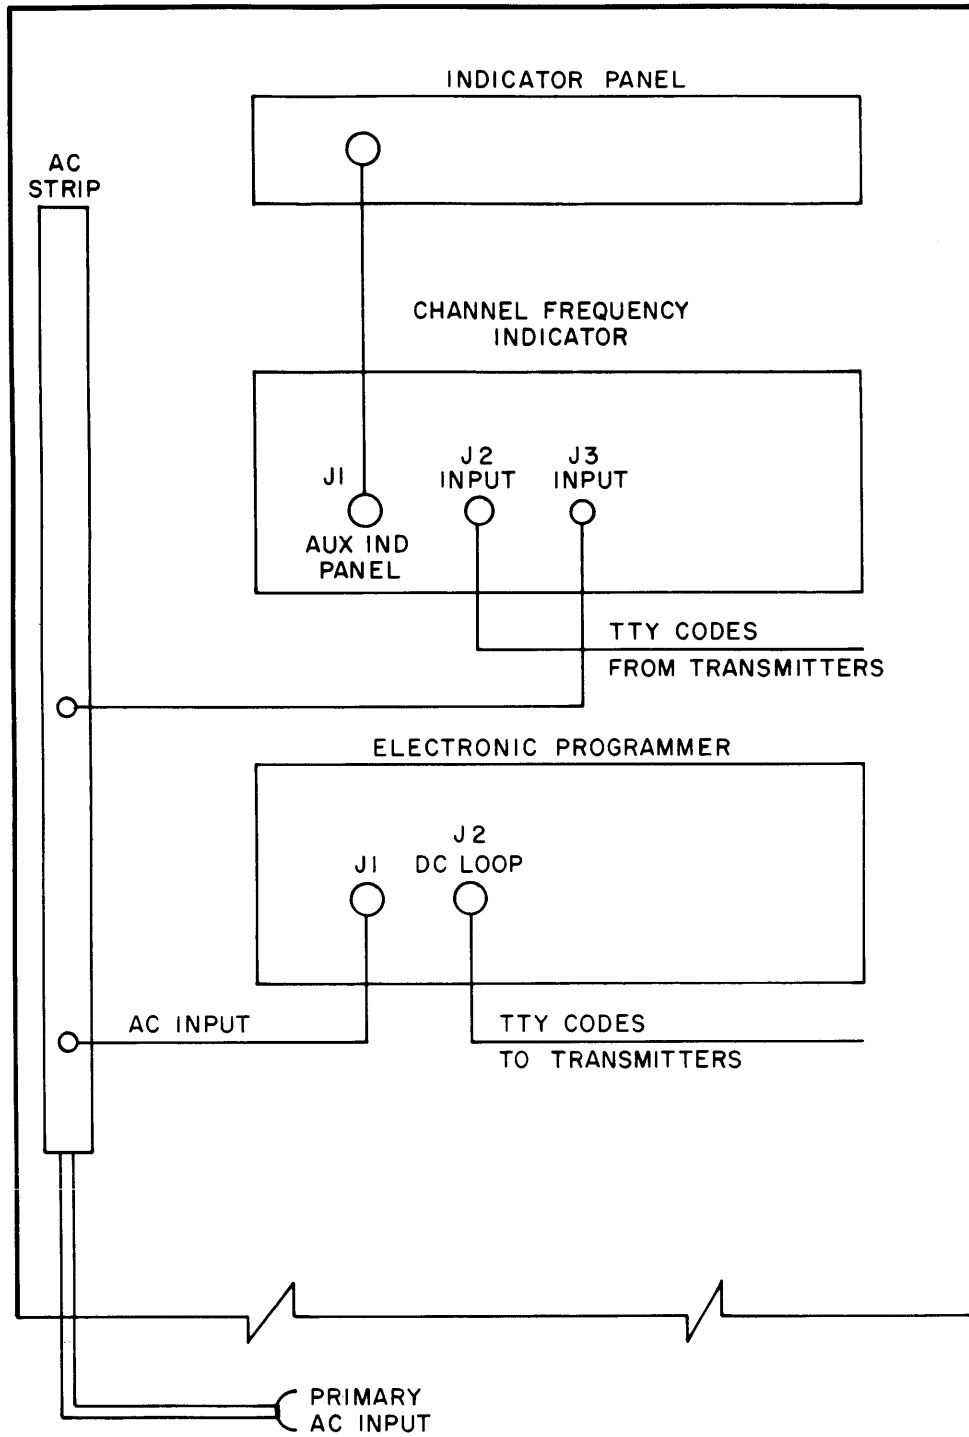

Figure 5-1. Cable Connecting Diagrams of Communications Control Console
a. INTRODUCTION. The procedure described in this section is aimed at directing the troubleshooter to the faulty component, connection or wire by logical choice in as few steps as possible. The basis for the steps is the structure of the console. The console is divided into three modular units, each unit having a unique and independent function (i.e., programming or readback). The ID-1678/URT and C-8335/URT modular units are further sub-divided into removable plug-in P/C (printed circuit) boards and other subassemblies. Refer to figure 5-1 for the console cable connecting diagram. The schematic wiring diagram and a component location illustration for the ID-1677/URT unit are provided in figures 5-2 and 5-3. Schematic wiring diagrams and component location illustrations for the ID-1678/URT unit are provided in figures 5-4 through 5-18. Schematic wiring diagrams and component location illustrations for the C-8335/URT unit are provided in figures 5-19 through 5-28.